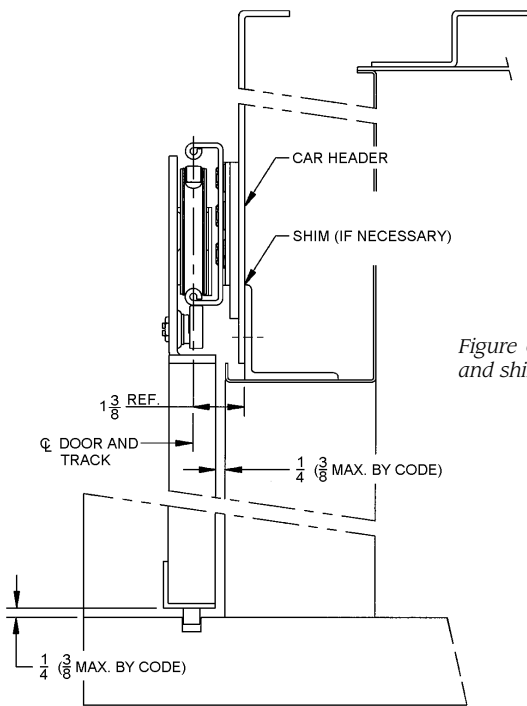

Figure 6: Car header and shim
- ◆ Mount the car header and track using the header supports and shims provided by the cab manufacturer*. The considerations, procedures and techniques used here are the same as for the hoistway tracks (Figure 6).